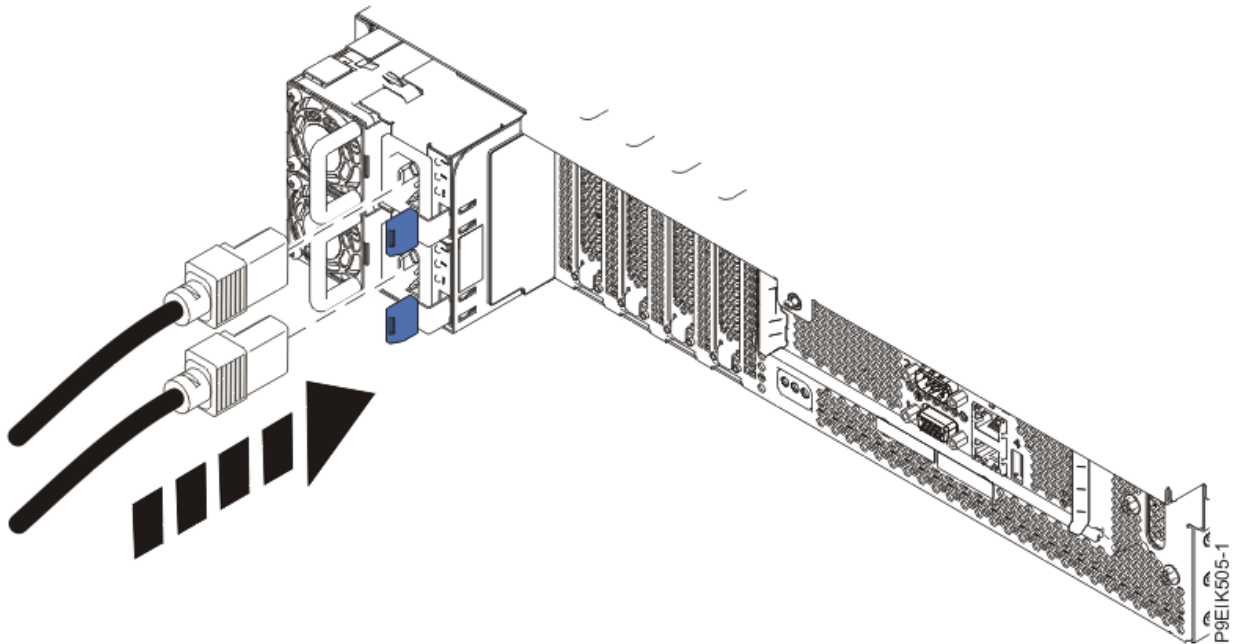

Figure 126. Connecting the power cords to the system
2. Using your labels, reconnect the power cords to the system unit as shown in Figure 126 on page 157.